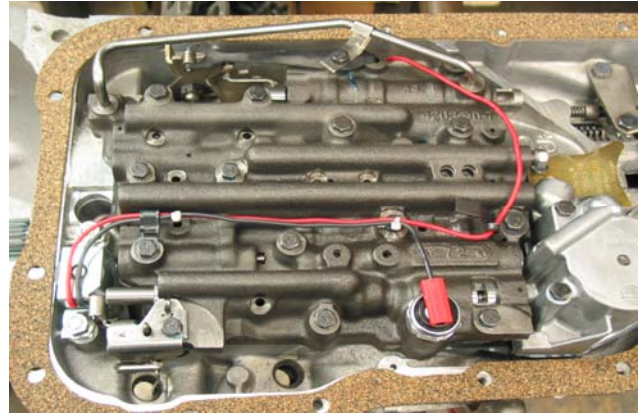

Figure 10
8. With the harness installed properly, it should be routed as shown in Figure 10.